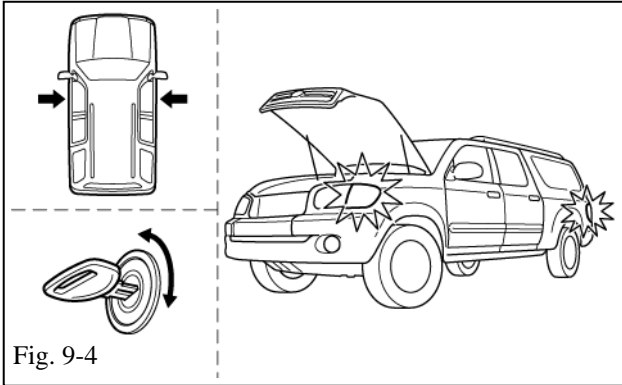

Fig. 9-4
- (d) Close all doors. (Fig. 9-4)
- (1) Do not close the Hood.
- (e) Insert the key into the ignition. (Fig. 9-4)
- (f) Turn it from “OFF” to “ON” 5 times. (Fig. 9-4)